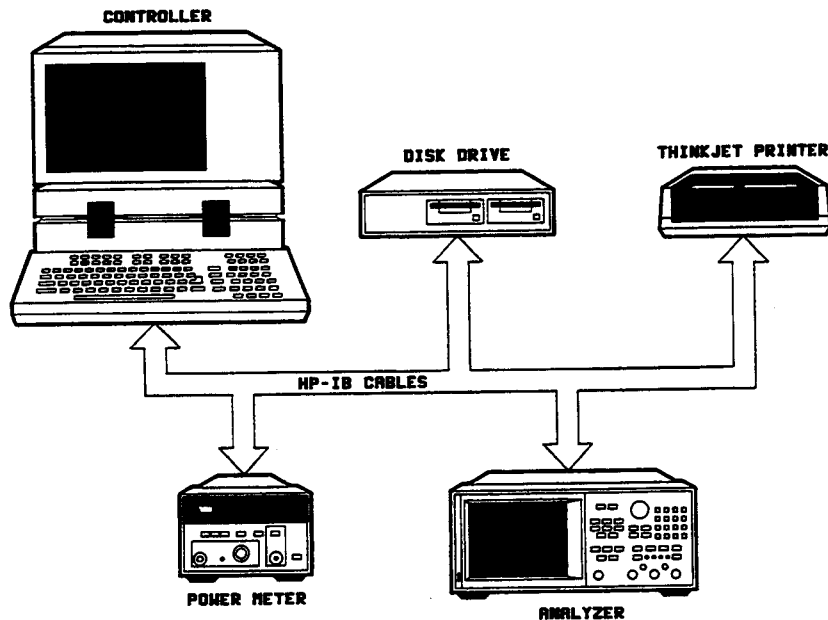

Figure 15. System Configuration for Output Power Tests
1. Connect equipment as shown in Figure 15.